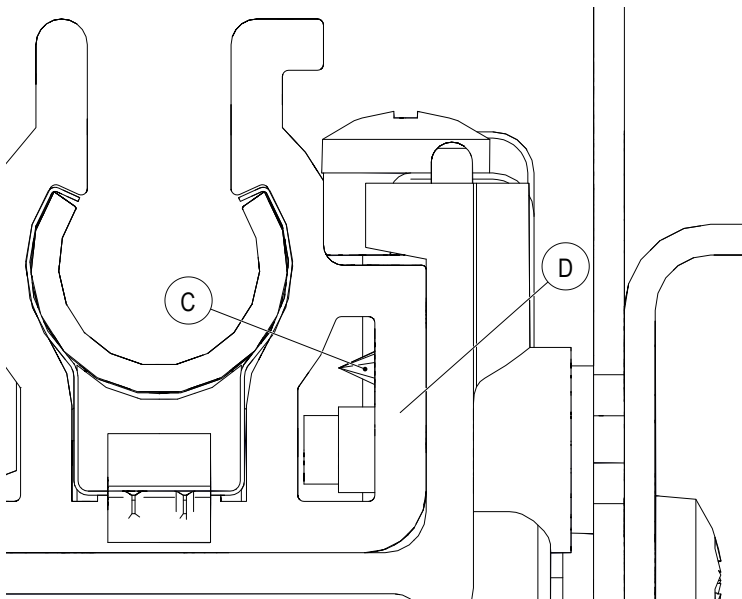
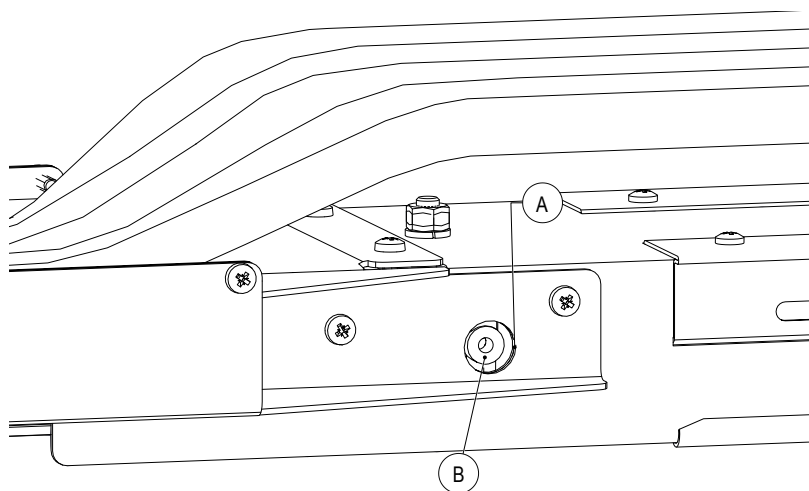

Fig. 81: Drill through first insulating profile wall for anchor point screw
Fig. 82: Pre-drill for fillister head screw
- The insulating profile must be drilled out for the fillister head screw (C), which ensures the fastening of the conductor rail system. For this purpose, drill through the transverse bore of the anchor point (B) and the first insulating profile wall (D) with a drill $\varnothing 3.2$ mm. The conductor bar must not be damaged. The fastening frame has an extra hole (A) for this purpose, so that the conductor rails can be drilled in the hung state (see Fig. 81 and Fig. 82).